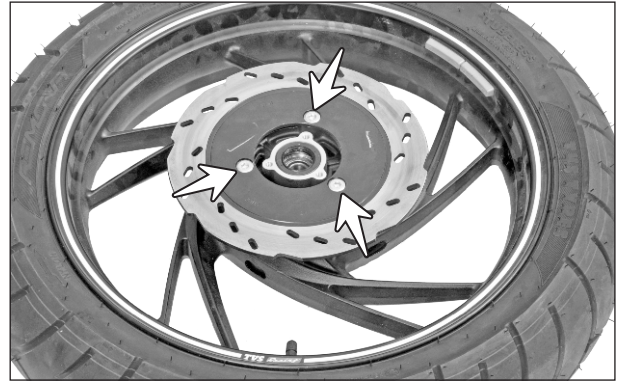

Fig. 6.83
- Remove the screw special (M8 - 3 nos.) from the disc plate mounting and take out disc plate from the alloy wheel rear. (Fig. 6.83)